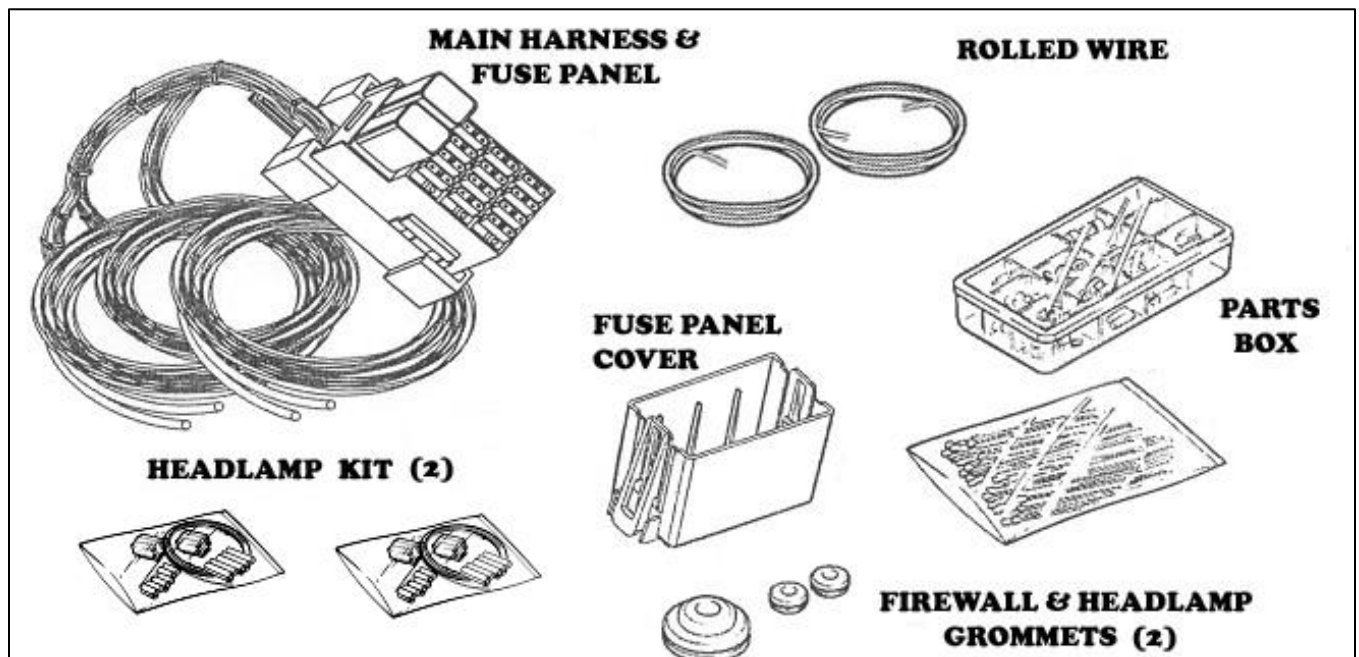

Figure 3-1 Painless Wire Harness Kit
Refer to **Figure 3-1** to take inventory. See that you have everything you're supposed to have in this kit. If anything is missing, contact the dealer where you obtained the kit or Painless Performance at (800) 423-9696. The Painless Wire Harness Kit should contain the following items:
- Headlamp Connector Kits (2).